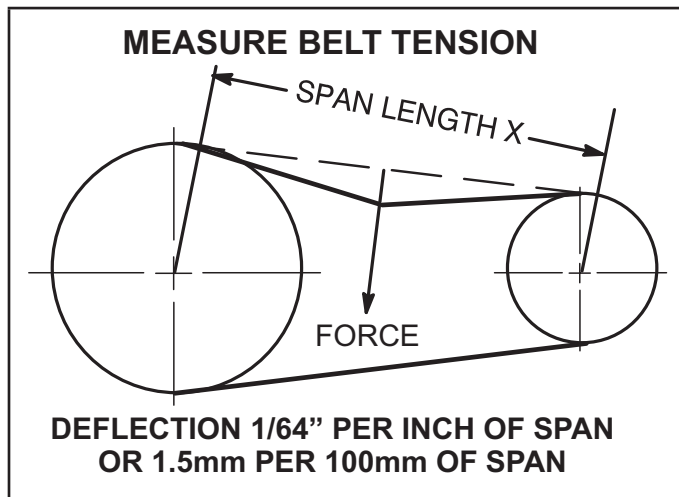

FIGURE 23
- 1 - Measure span length X. See FIGURE 23.
- 2 - Apply perpendicular force to center of span (X) with enough pressure to deflect belt $1/64$ " for every inch of span length or 1.5mm per 100mm of span length. Example: Deflection distance of a 40" span would be $40/64$ " or $5/8$ ". Example: Deflection distance of a 400mm span would be 6mm.